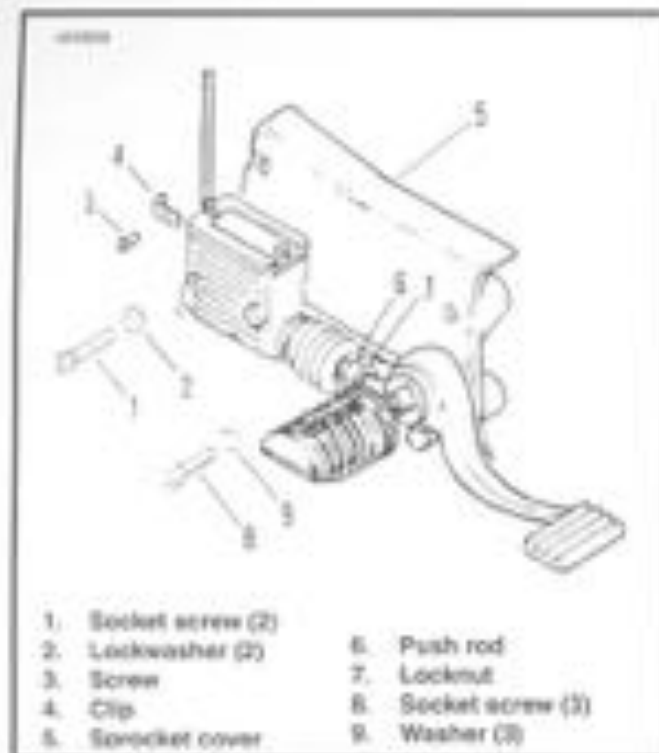

Figure 6-9. Sprocket Cover
3. See Figure 6-9. Remove screw (3) and clip (4) which secure rear brake line to sprocket cover (5).
4. Remove two socket head screws (1) and lockwashers (2) which secure rear brake master cylinder to sprocket cover.
5. At rear brake linkage, loosen locknut (7). Turn push rod (6) at fulcrum until rod end is free of push rod.
6. Remove three sprocket cover screws (8) and washers (9). Remove sprocket cover (5).
9. See Figure 6-9. Install belt. Reinstall removed components in reverse order of removal procedures.
- Tighten sprocket cover screws (8) to 90-110 in-lbs (10.2-12.4 Nm) torque.
- Tighten master cylinder screws (1) to 155-190 in-lbs (17.5-21.5 Nm) torque.